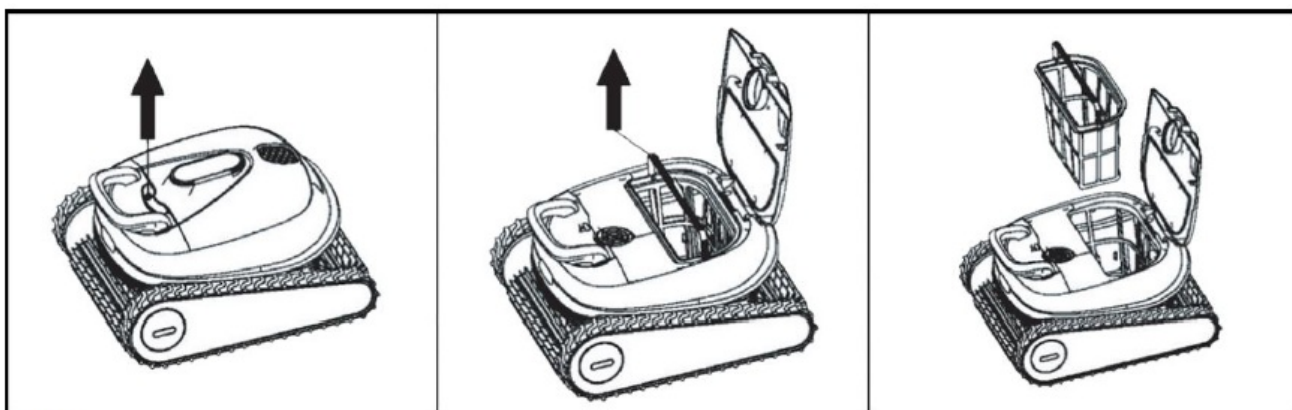

Fig. 5
- Open the lid and remove the filter basket (Fig. 5).